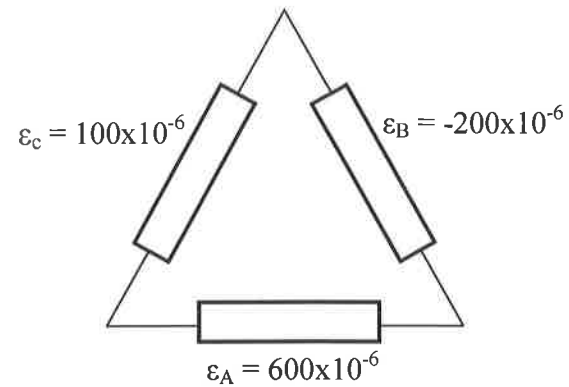

Figure Q1
1. A 60° delta strain gauge rosette attached to a steel component gave the readings indicated in Figure Q1.